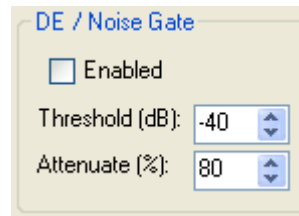

Figure 125: Noise Gate
4. Decrease the **Attenuate(%)** (see Figure 125 above) slowly until you can just start to hear your background noise. Then lower it a little more (about 5%-10% is a good starting point) to provide more of a soft knee between your voice level transitions.